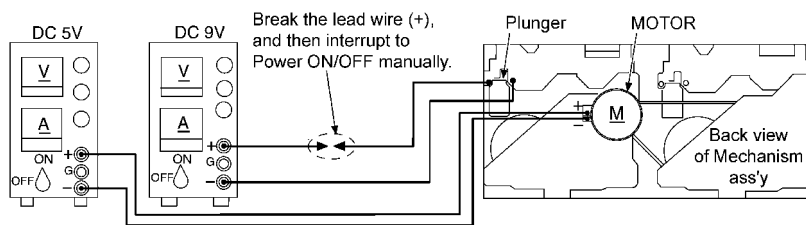

Fig. 1
2. Apply DC 5V to the MOTOR. (MOTOR will be rotated) (Refer to Fig. 1)
4. Apply DC 9V to the plunger, and then operate it by switching power ON/OFF. (Power: +PL, -PL) (Refer to Fig. 1)
1. Connect the instrument as shown in Fig.1.
3. Apply signal sa shown in Fig.1 from AM-SG.